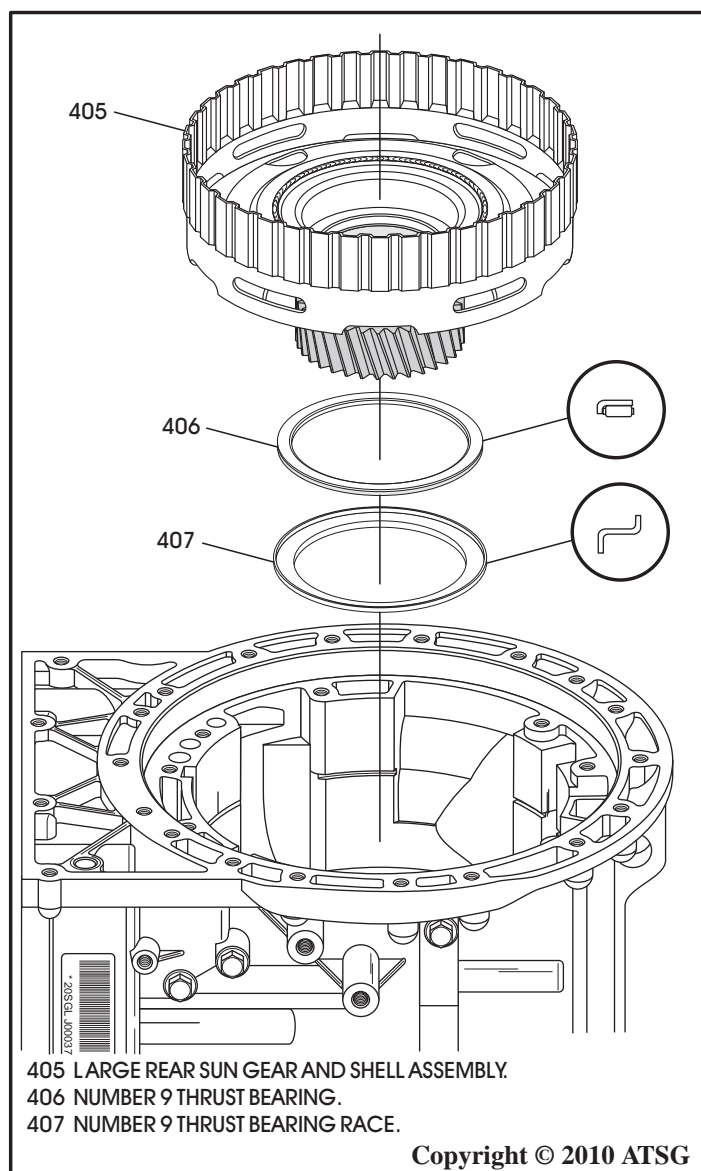

Figure 211
23. Install the number 9 thrust bearing race onto the rear planetary carrier, as shown in Figure 211.
24. Ensure number 9 thrust bearing is still stuck to back of large sun gear and shell, as shown in Figure 211, and install the large sun gear into planetary carrier by rotating into position.